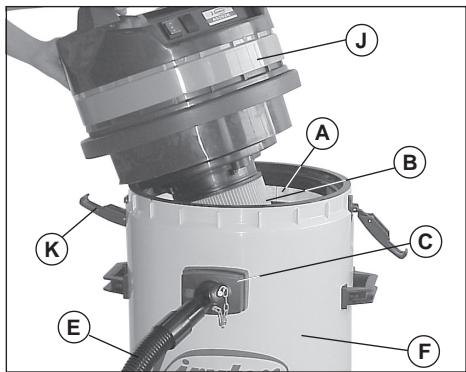
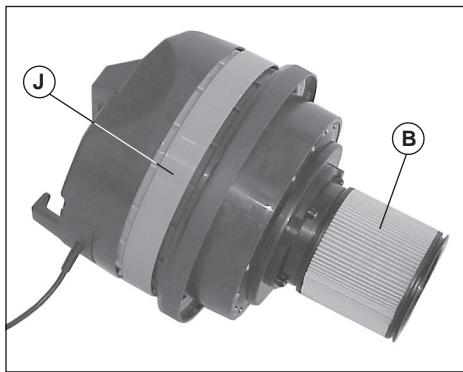

Fig. 1
Fig. 2
- That filter sack A (Fig. 1) or the paper filter bag has been correctly inserted inside the dust collector.
- That supplementary filter B (Fig. 1) has been correctly inserted in the upper part of the body.
- Insert the filters A and B (Fig. 1 and 2). If a paper filter bag is used, install only the cartridge for filter B (Fig.2).
- Assembly the head on tank and block it by hooks K, (Fig. 1).
- Connect the flexible E hose to the inlet C (Fig. 1).
- Remove the filters A and B (Fig. 1 and 2)
- Assembly the head on tank and block it by hooks K (Fig. 1).
- That the bag filter A (Fig. 1), or the paper filter bag is correctly inserted inside the aspirator.
- That the supplementary filter B (Fig. 1) is correctly inserted in the upper part of the body.